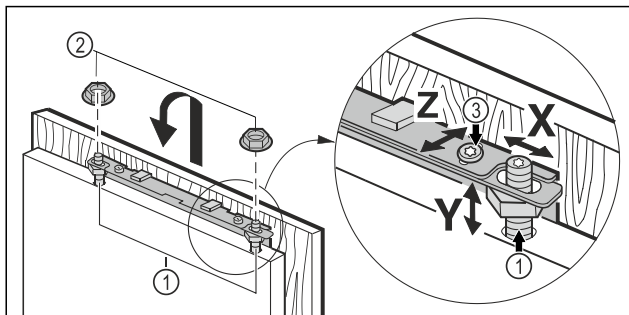

Fig. 22
- Hook the unit door onto the adjustment bolts *Fig. 22 (1)* and screw the lock nuts *Fig. 22 (2)* loosely onto the adjustment bolts.
- Align the unit door in height Y and in the lateral inclination: Adjust the adjustment bolt *Fig. 22 (1)* with a screwdriver.
- Tighten the lock nuts *Fig. 22 (3)*.